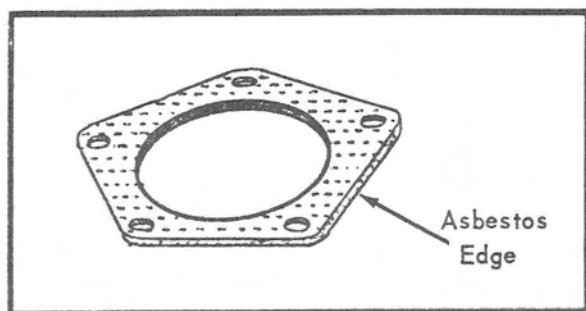

Figure 5. Asbestos Gasket
1. Asbestos cylinder head gasket (Figure 5) should be installed in all CCW engines with ENGINE Serial No. 2899999 and below.